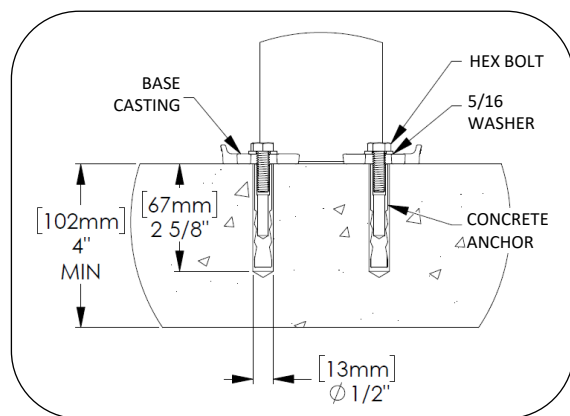

Fig. 6 – Anchor detail
4. Drill holes according to anchor size and depth, see Fig. 6. Clear holes of debris.
10. Set surface mount pole over concrete anchors and attach using hex bolts and washers as shown in Fig. 6. Align arrow on base plate with front location of path light.